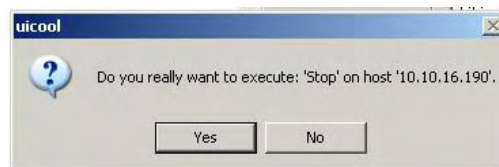

Figure 1-249. Execute Shutdown
7. A "uicool" confirmation window is displayed with the message similar to, "Do you really want to execute 'Stop' on host xx.xx.xx.xx". (xx.xx.xx.xx = should be the IP address of system with wrong configuration). Click on **Yes** (Figure 1-249).